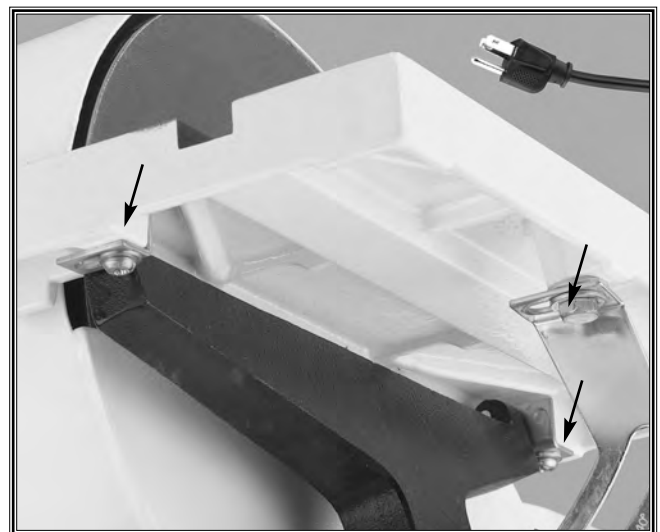

Figure 31. Table adjustment screws.
5. To adjust, loosen the three screws shown in **Figure 31**. Wiggle the table until the miter slot is parallel to the sanding disc and tighten the adjustment screws.